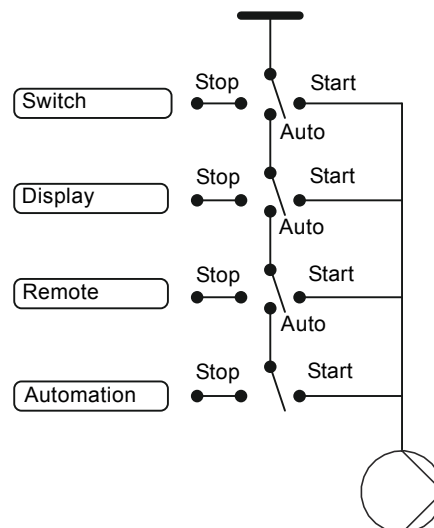

Fig. 27 Logic and priority for the pump control
- See fig. 27 for logic and priority for the pump control, and note that the control sources "Switch" and "Display" have higher priority than Remote.